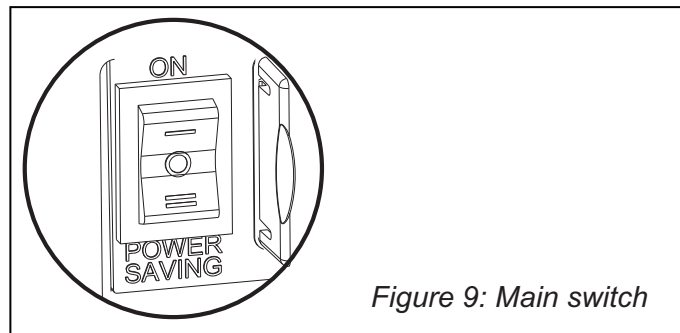

Figure 9: Main switch
Move the main switch (figure 9) to position I (“ON”) or II (“Power saving”). With the power switch in position II, the battery is saved when the load is under 40 W. The AC Master is in scan mode then and switches on when it detects a load. When the AC Master switches on, it will produce a short beep.
Move the main switch (figure 9) to the position O (“OFF”). Note that switching off the AC Master does not disconnect the batteries!
1. Move the main switch (figure 9) to position 0 (“OFF”).